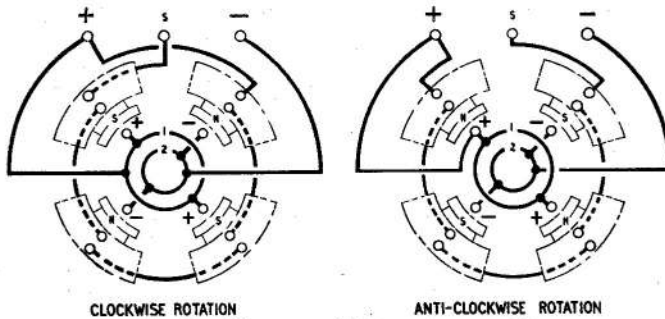

Fig. 4. Diagram of internal connections
3. Four brushes are set diametrically about the commutator; connections are brought out from them to the connecting rings which are mounted on, and insulated from, the end frame, and thence to the terminals. The arrangement is illustrated in *fig. 4*.